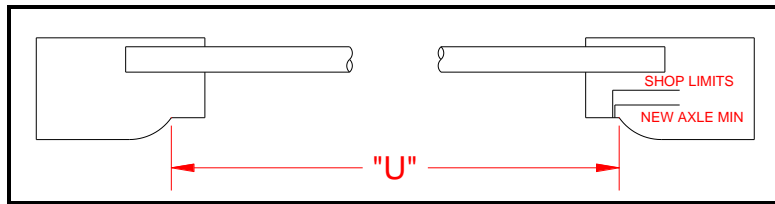

Figure 4 – Axle Fillet “U-dimension” Gage
- 7) **Check for the proper fillet position** with a “U-Dimension” gage (Prior to wheel mounting). See Figure 4 (AAR Fig. 5.24). This is especially important when the fillet has been reworked.
Reference Figure 4.